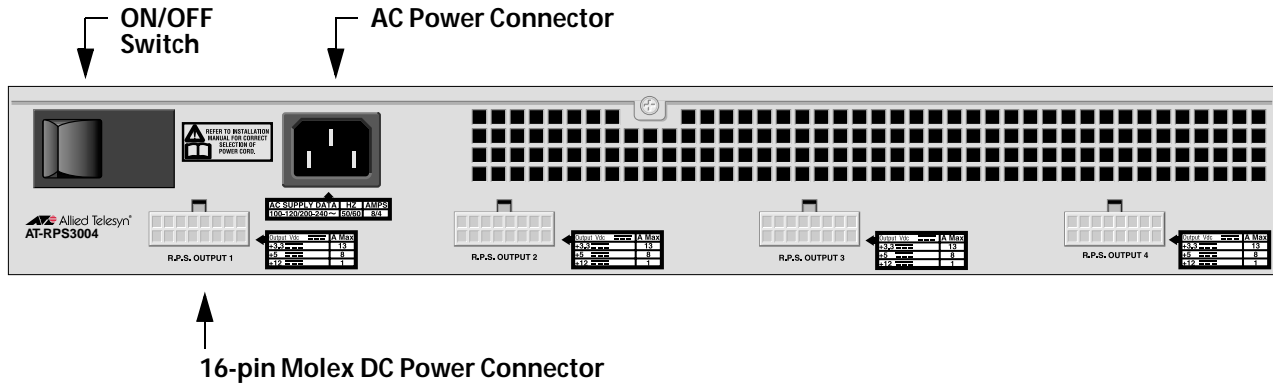

Figure 32 Back Panel of the AT-RPS3004 Unit
7. Attach the provided DC power cord to the DC output connector on the back panel of the AT-RPS3004 power supply. Refer to Figure 32 for the DC output connector.
9. Plug the AC power cord for the AT-RPS3004 into the AC connector on the back panel of the unit. Refer to Figure 32 for the AC connector.
11. Turn on the AT-RPS3004 using the switch on the back panel of the unit. Refer to Figure 32 for the ON/OFF switch.